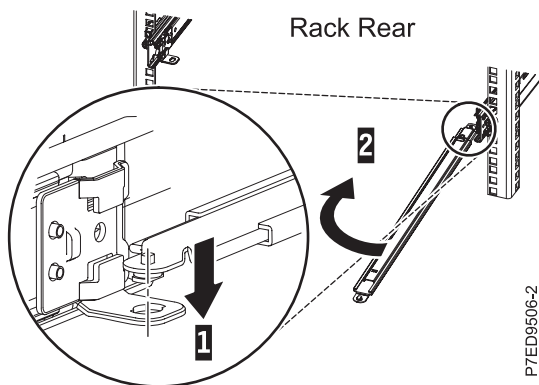

Figure 12. Connecting the support arm
1. The cable-management arm must be installed on the right side of the server, when you are facing it from the rear. The following figure shows it being installed on the right side. Connect one end of the support arm (1) to the right slide rail so that you can swing the other end of the support arm (2) toward the left side of the rack, as shown in Figure 12.